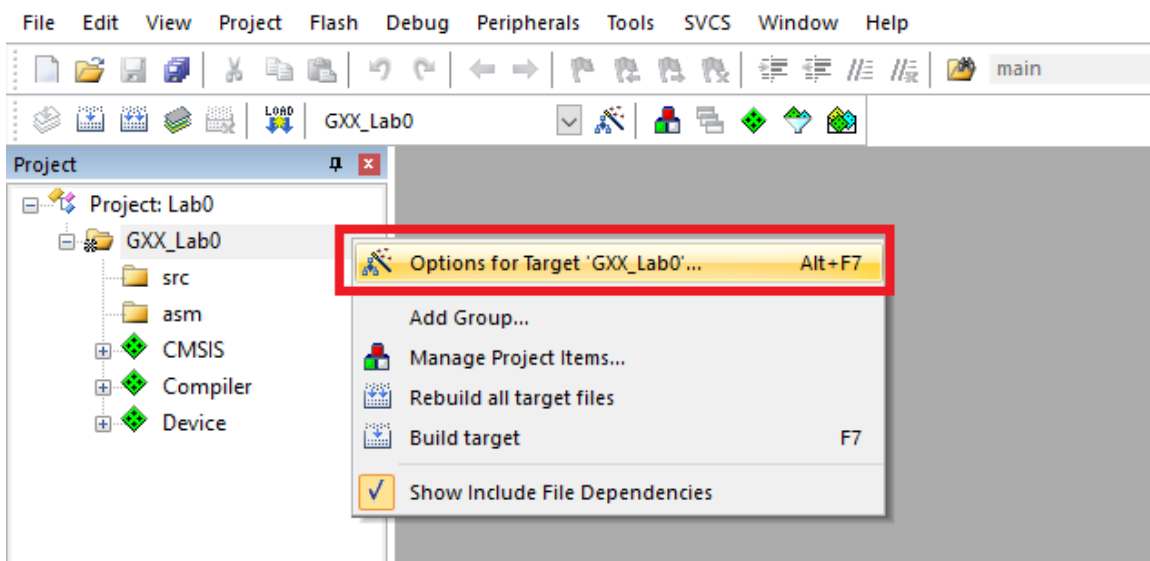
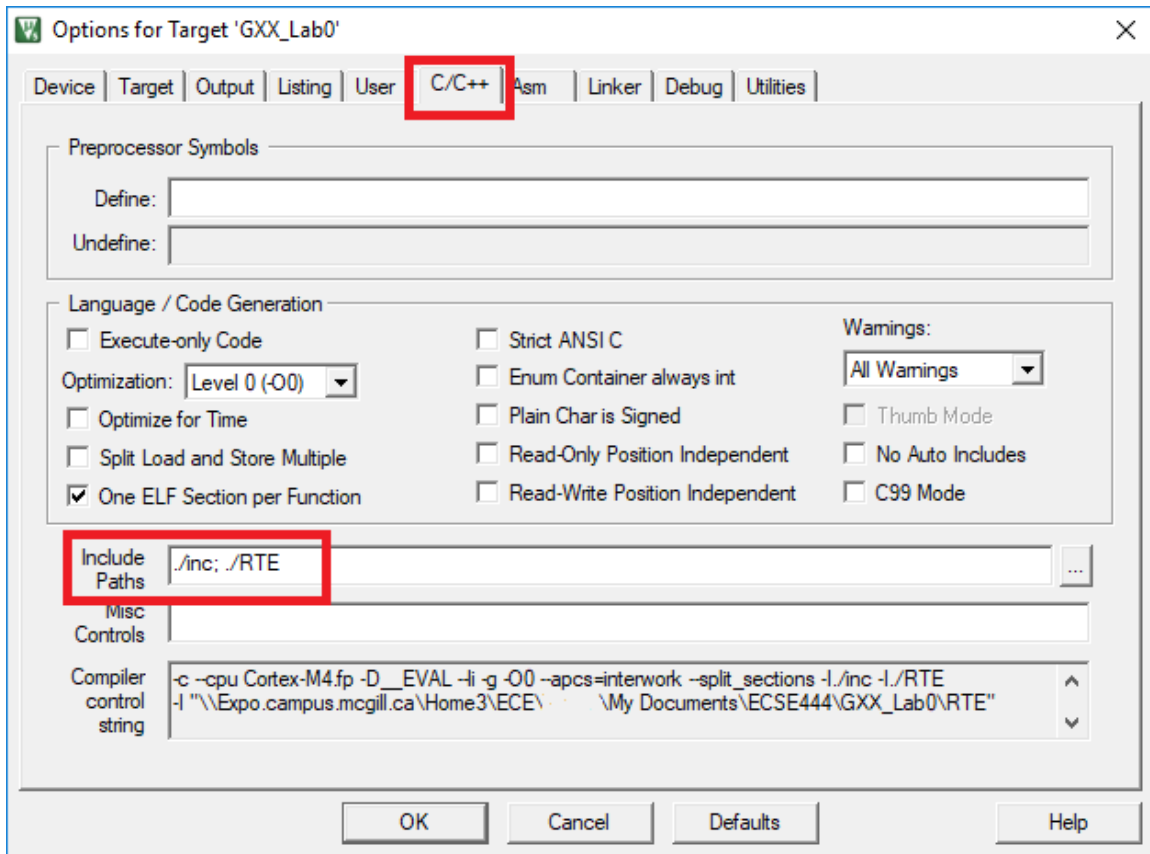
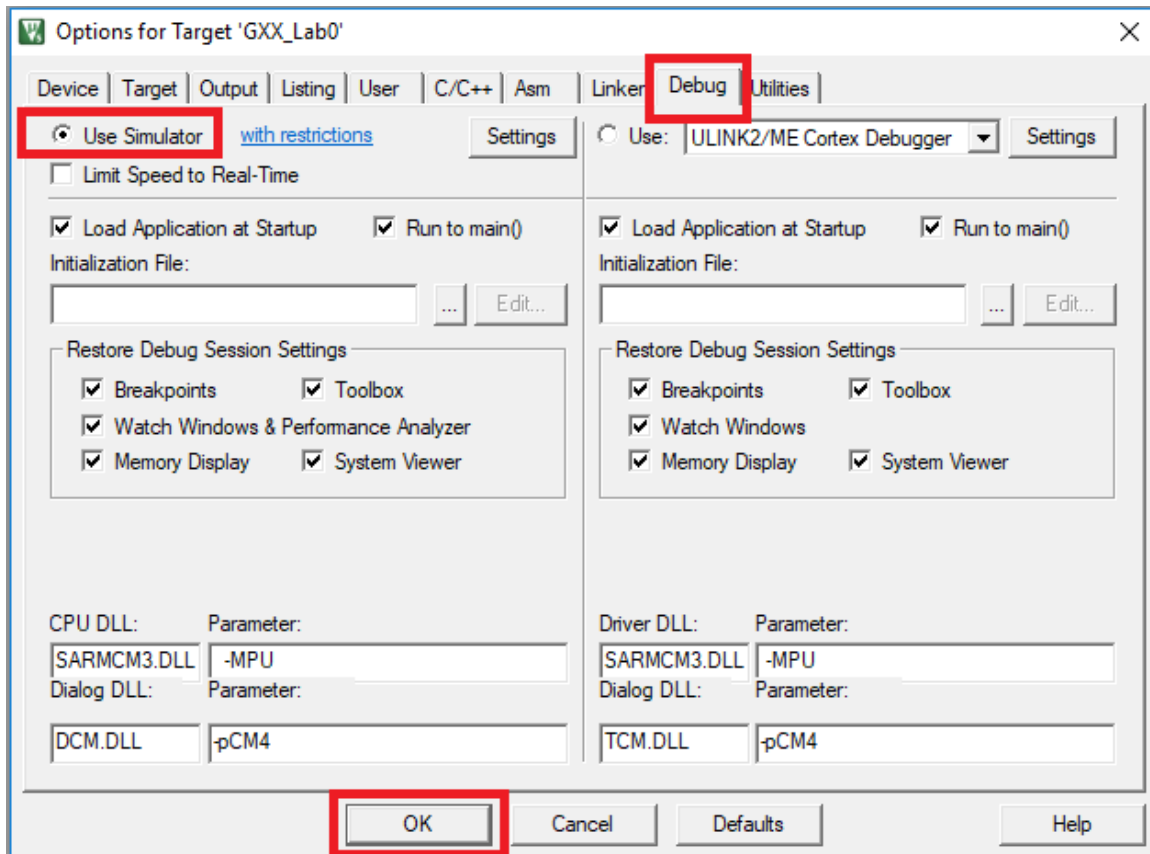

Figure 9: Accessing the project options.
Figure 10: Set the include directories
Figure 11: Enable simulator mode.
8. Lastly, we have to change some project options. The menu can be accessed as shown in Figure 9. We need to tell the compiler in which directories header files will be found. Fill in the field as shown in Figure 10 (the text says “.\inc; .\RTE ”). We also need to run the project in simulation mode since we don’t actually have the boards as yet. This is done as shown in Figure 11.